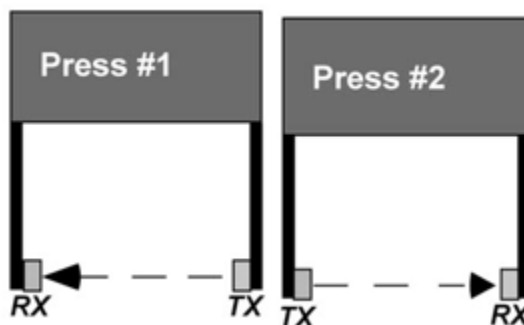

Figure 2-24. Reversing Transmitters (TX) and Receivers (RX) to Prevent Cross Talk
- Reverse the position of the transmitter and receiver on the second press, as shown in Figure 2-24.